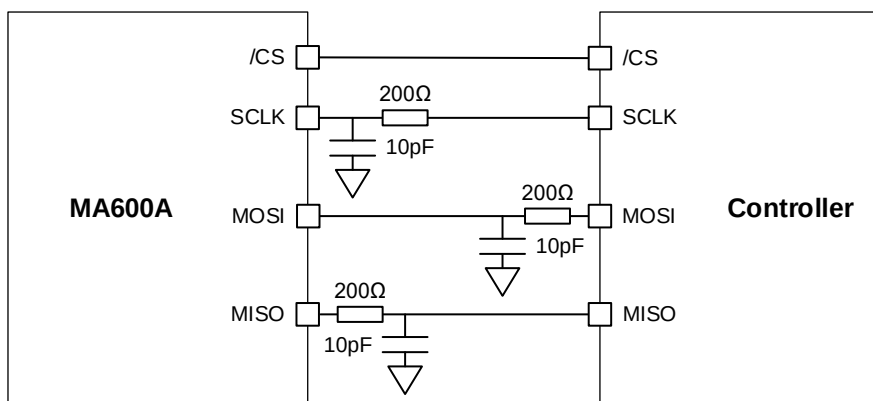

Figure 47: Example of RC Low-Pass Filters on the SPI Signals
- Insert an RC low-pass filter on SCLK (see Figure 47 on page 43). This RC filter must be located close to the sensor. It is recommended to use a 200Ω serial resistor with a 10pF shunt capacitor to obtain an 80MHz filter cutting frequency.
- Insert RC low-pass filters on the CIPO and COPI signals (see Figure 47 on page 43). The RC filter on COPI must be located close to the controller, while the filter on CIPO must be located close to the sensor. It is recommended to use a 200Ω resistor with a 10pF capacitor.